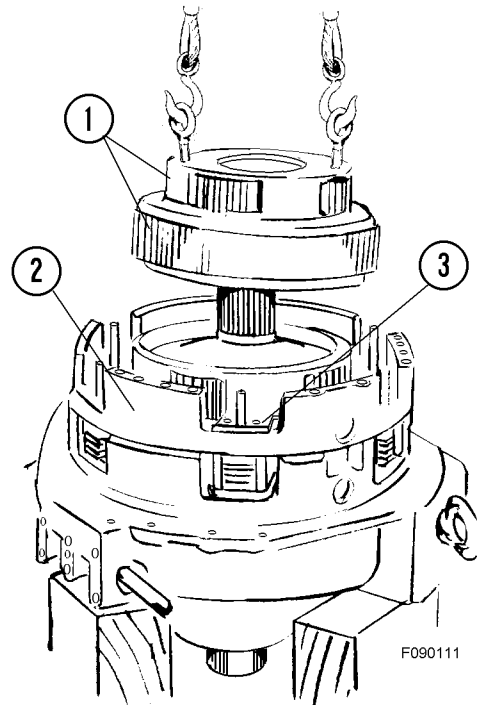

FIGURE 9-19. NUMBER FOUR CARRIER ASSEMBLY REMOVAL
45. Attach lift eyes (M12 x 1.75), lifting chains and a hoist to number four carrier (1, Figure 9-19). Remove the carrier and the number five ring gear.
46. Remove number five clutch housing (2).